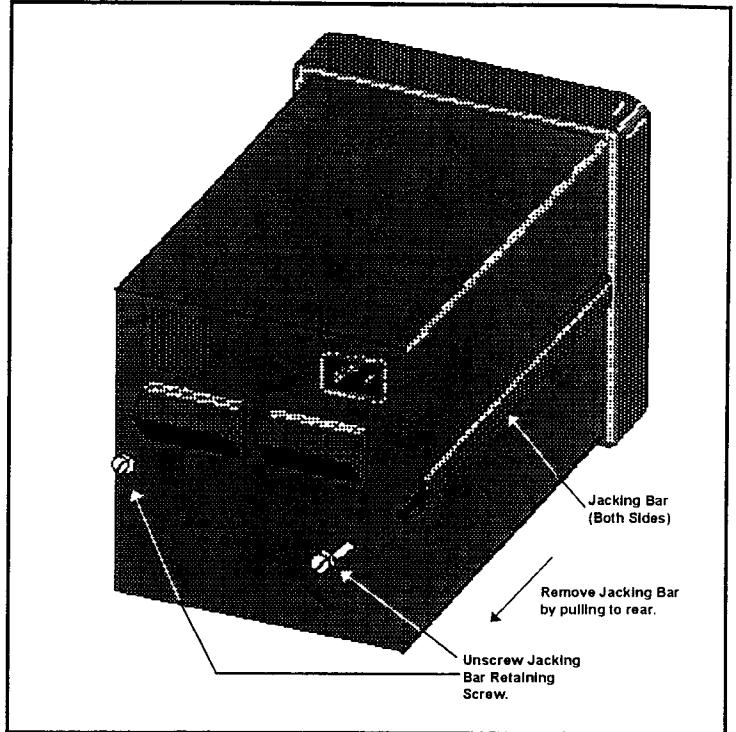

Figure 2-2 Removal of Jacking Bars
2.2.1.4 Remove the two screws on the rear panel holding the jacking bars in place, and remove the jacking bars by pulling to the rear. Refer to Figure 2-2 opposite.